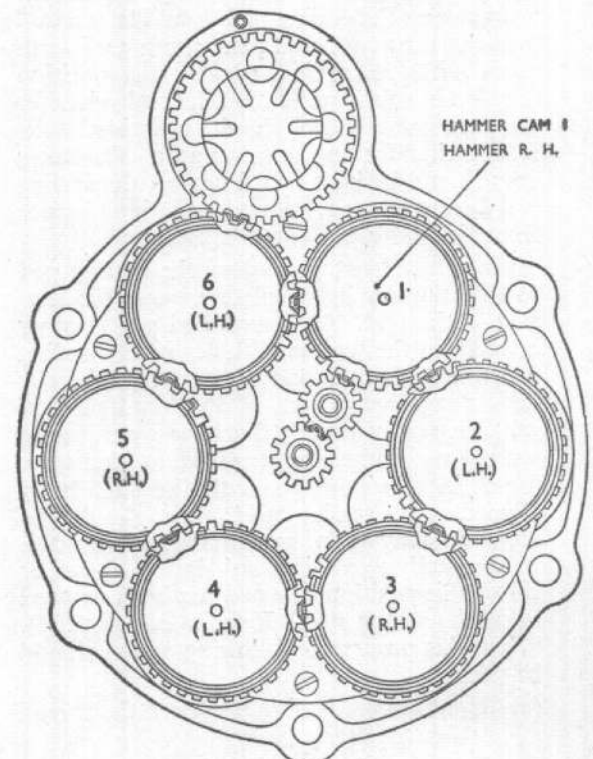

Fig. 29. Timing the firing gears
Timing the firing gear assemblies (*fig. 29*)
- (5) Remove the front plate and position the firing gear as in sub-para. (2) and the key-way as in sub-para. (6).
- (6) Locate No. 5 firing mechanism in No. 5 thrust nut so that the male chamfer on the firing gear points to the centre of No. 6 housing and the female chamfer points to the centre of No. 4 housing.
- (7) Proceed as from sub-para. (3) to (7) except that in sub-para. (3) and (6) the mating chamfers and the direction of the pad key-way will be as shown in *fig. 29*.
- (8) Assemble the remaining four assemblies as detailed in sub-para. (3) and sub-para. (7) referring to *fig. 29* for correct firing gear and sealing pad positions. Check the position of the sealing pad with the front plate in each case.
74. The idler gear (*fig. 29*) must be timed to the index gear as follows:—